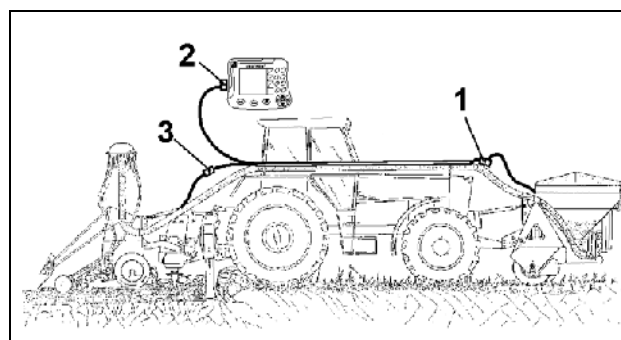

Fig. 45
Install and affix to the tractor both the seed guide tubes and the set of cables (Fig. 45).
- Connect combi-plug (Fig. 45/1, Fig. 46) of the front tank with the cable harness
- Connect the plug of the seed drill with the cable harness (Fig. 45/3).
- Connect the cable harness with the aid of the implement plug with the tractor basic equipment for **AMATRON 3** (Fig. 45/3, Fig. 47).